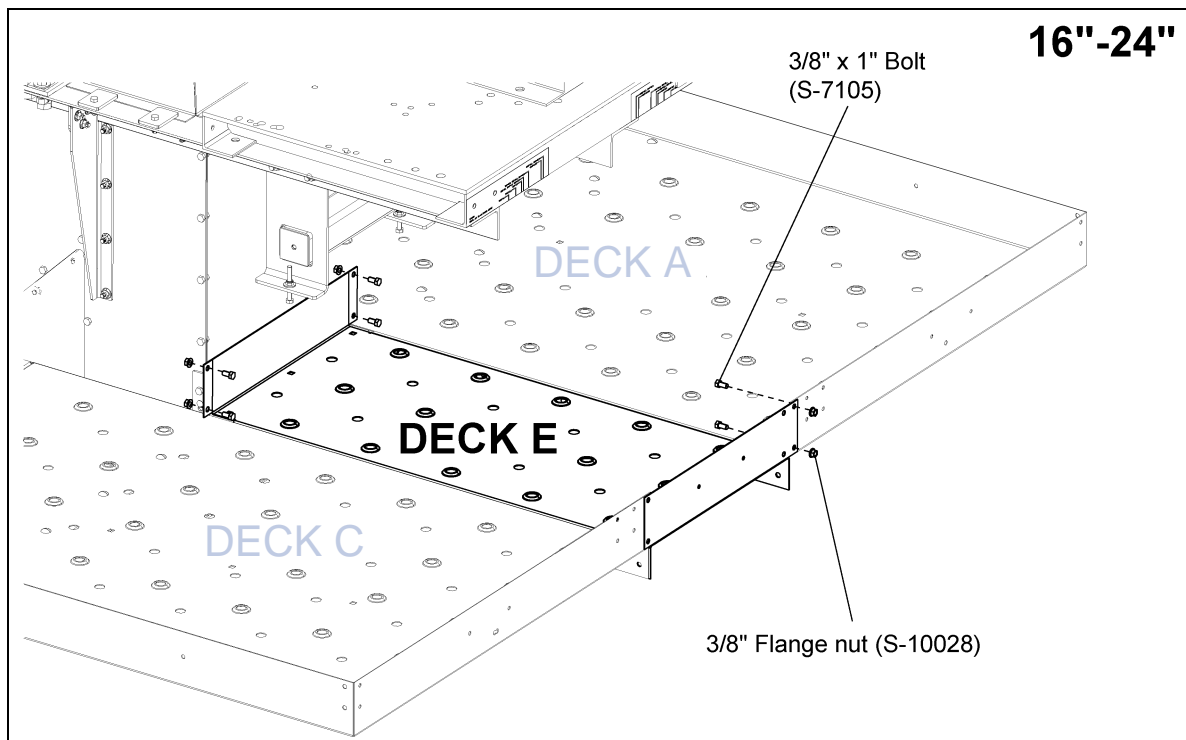

Figure 7J 24" Deck E
- Align Deck E so the flanges are to the outside of Deck A and Deck C. Using 3/8" x 1" bolts (S-7105) and 3/8" flange nuts (S-10028), connect Deck E to toe boards and flanges of Deck A and Deck C. (See Figure 7J.)